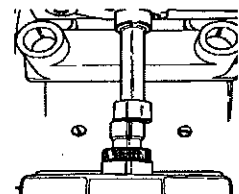
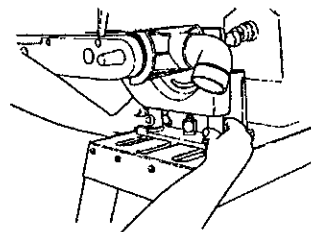

Fig.F-5
Fig.F-6
9. To align the Belt Sander horizontally, look to see how much it is out of horizontal alignment, like in Fig.F-5. Then twist the tubes to the left or right until the coupler is aligned with the drive shaft hub. See Fig.F-6.